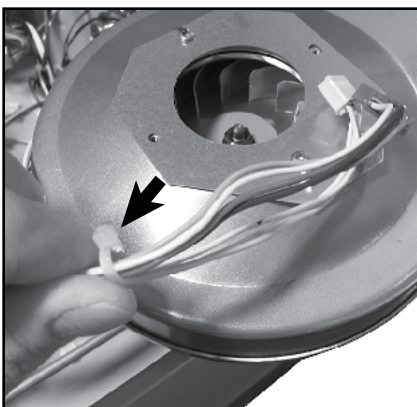

Figure 60.
10.3 IF the fan wires are zip-tied to the white Exhaust Thermistor/High Limit Switch wires, clip the zip tie to separate them (Figure 60).